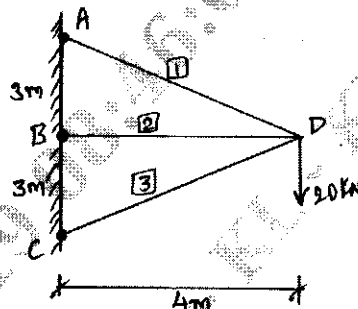

Fig.Q10
- 10 Determine the forces in all the members of the plane truss shown in the Fig.Q10 by direct stiffness method. AE is constant. (16 Marks)